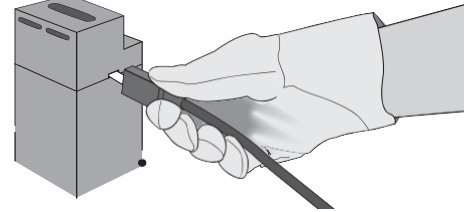

FIGURE 11
3. Attach Control Unit termination clip to ignition strip, align the strip and close the cover. See Figure 11.